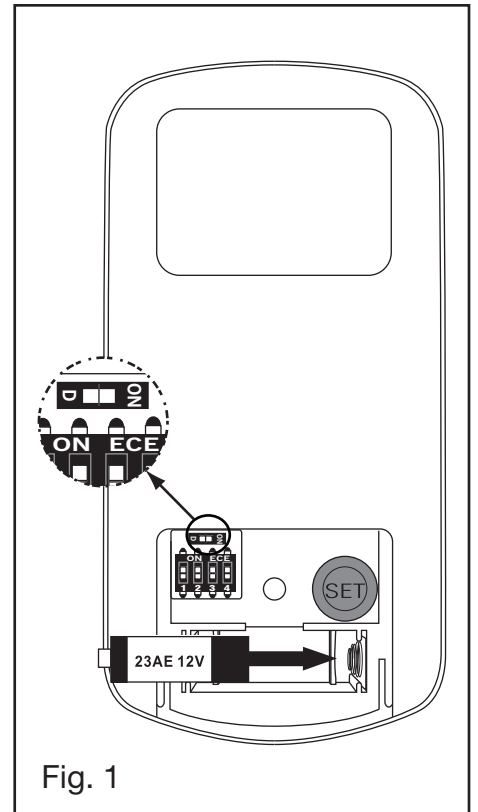

Fig. 1
1. Place washer on screw. Insert this assembly through the blade and start the screw into the blade arm. Repeat this procedure without tightening the screw until all 3 screws have been started into the blade arm (Fig. 1).
Step 1. Remove one of the three screws on the mounting hub located on the fan motor. (Fig. 1)
Step 2. While holding the LED light kit under your fan, make the polarized plug connections: (Fig. 1)
Step 3. Tuck connections neatly into LED light kit, place the LED light kit to the mounting hub with 3 screws provided. (Fig. 1)
Step 4. Raise the light cover against the LED light kit and turn clockwise until snug, DO NOT OVERTIGHTEN. (Fig. 1)
Install one 23A/12V battery (included). To prevent damage to transmitter, remove the battery if not used for long periods of time (Fig. 1)
A DOWNWARD airflow creates a cooling effect as shown in Figure 1. This allows you to set your air conditioner on a warmer setting without affecting your comfort.